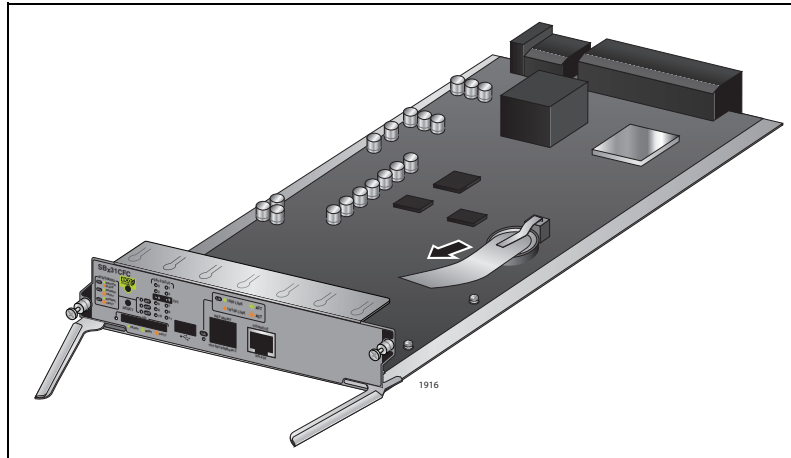

Figure 41. Removing the Battery Insulator
5. Remove the battery insulator between the battery and the battery clip by pulling out the insulator tab as shown in Figure 41.